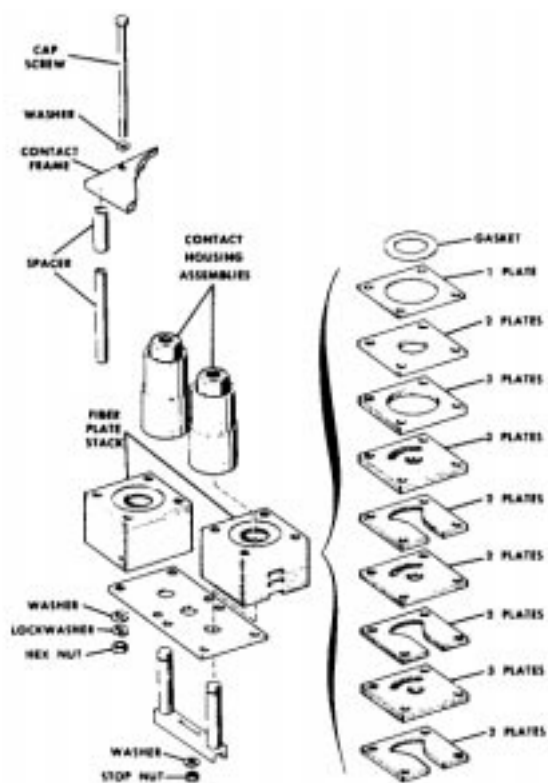

Figure 15
4. Slide the arc interrupter assembly downward. Figure 15 shows the individual parts in the order of removal.
10. Refer to figure 15 and reassemble the interrupter in the following order:
- a. Place the fiber plates in two stacks on top of the bottom plate, in the order shown in figure 15. Make sure that the gasket is included. The exhaust ports open to the outside of the assembly.